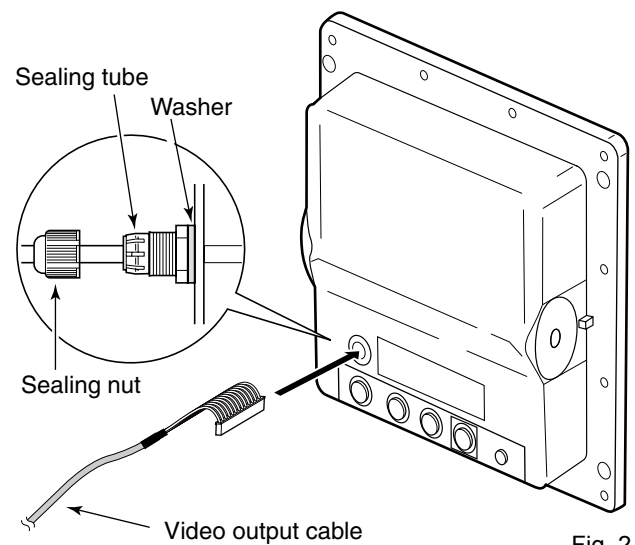

Fig. 2
① One of the connectors has a lock. Hold the release on connector head to disconnect the connector.
4. Pass the video output cable through the hole, then screw in and tighten the sealing tube. (Fig. 2)